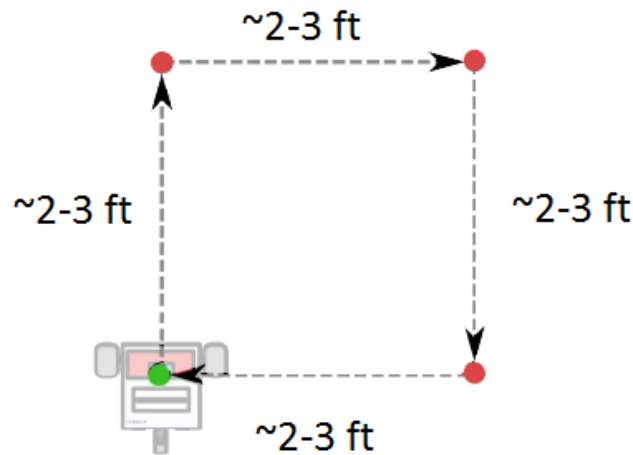

Figure 10: Square Robot Motion
1. Write a program to move the robot in a square path with sides specified in the function (see Figure 10).